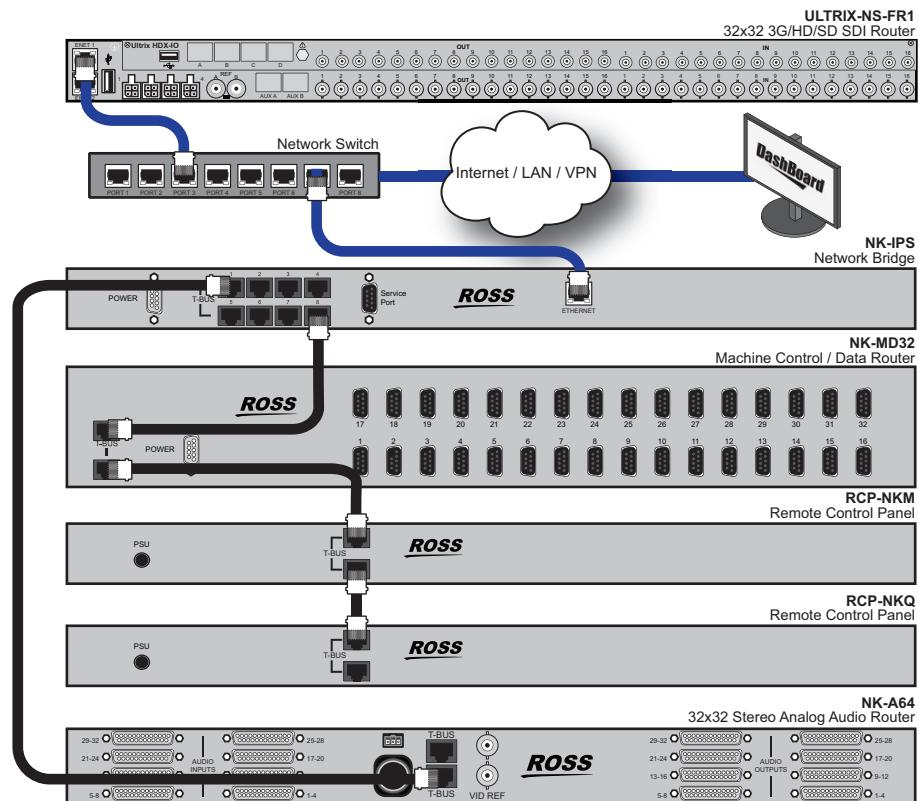

Figure 66 Connection Example with an NK-IPS
**Figure 66** provides an example of a system with an Ultrix router, an NK-IPS, and several NK devices.